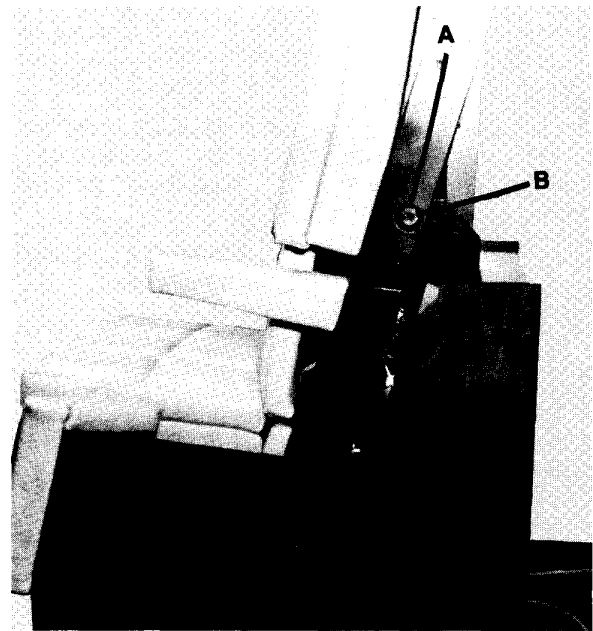
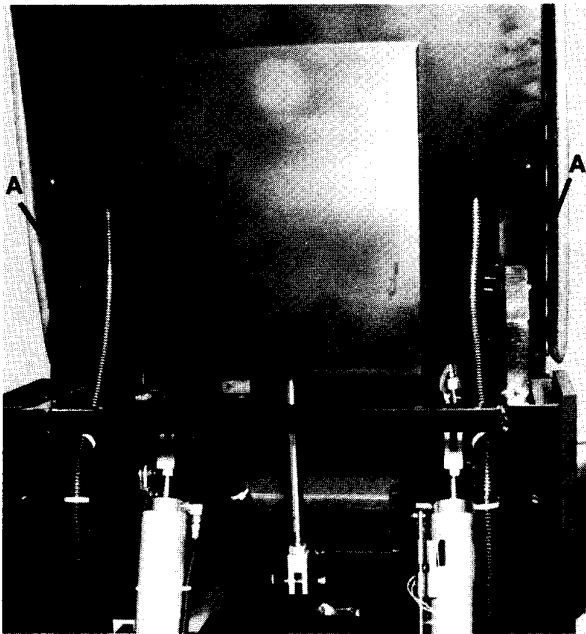

Fig. 1
Fig. 2
5. Inspect the back pivots, Item A, Fig. 1. The pivot shoulder bolt, Item B, Fig. 1 should turn in synchronization with the back section as the back rotates. Also, the back section should be centered between the uprights with an equal amount of spacing, Pt. A, Fig. 2 on each side of the upright.
- b. remove the pivot shoulder bolt, Item B, Fig. 1 with a 3/8" allen wrench.
- c. apply Loctite #271 to the threads of the pivot shoulder bolt and replace the bolt and thrust washer in the pivot, making sure the back is centered between the uprights with equidistant spacing, Pt. A, Fig. 2 on each side of the upright.